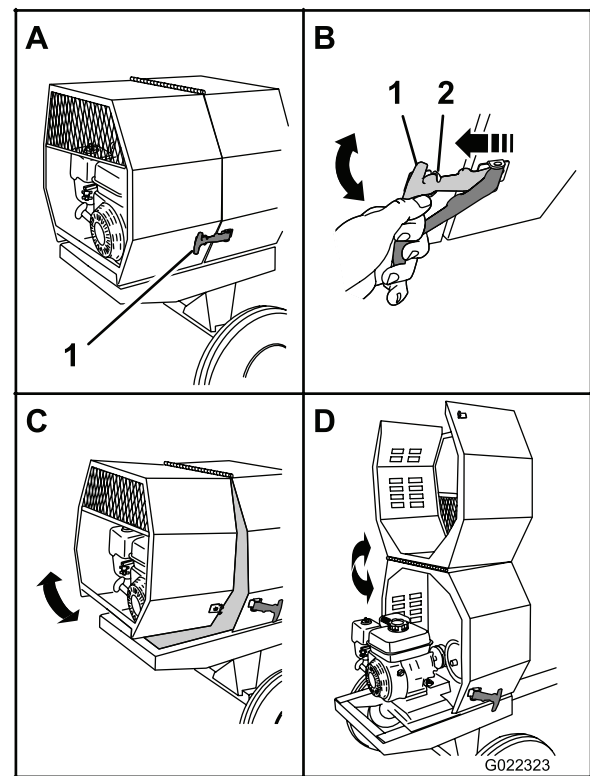

Figure 24
3. Rotate the rear cowl up and forward until it is fully positioned on top of the front cowl (Figure 24).
1. Rotate the rear cowl rearward and down until the receiver at the bottom center of the cowl is flush on the frame of the machine (Figure 24).
3. Repeat step 2 at the opposite side of the machine (Figure 24).
1. At the side of the machine where the front cowl and rear cowl meet, grasp the latch and pull it off from the latch anchor on the rear cowl (Figure 24).